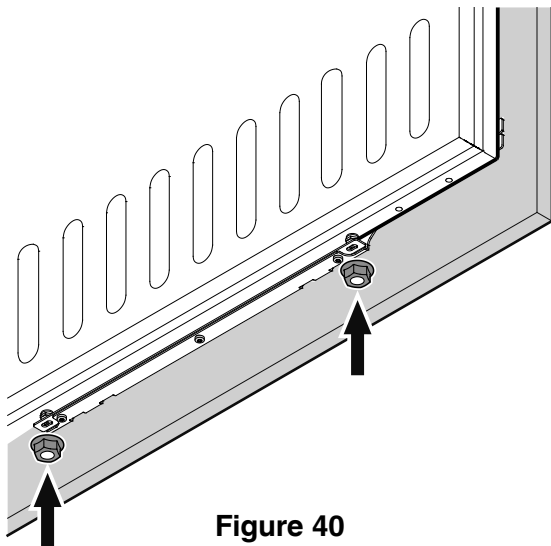

Figure 40
9. Screw on the hex nuts and tighten (**Figure 40**).